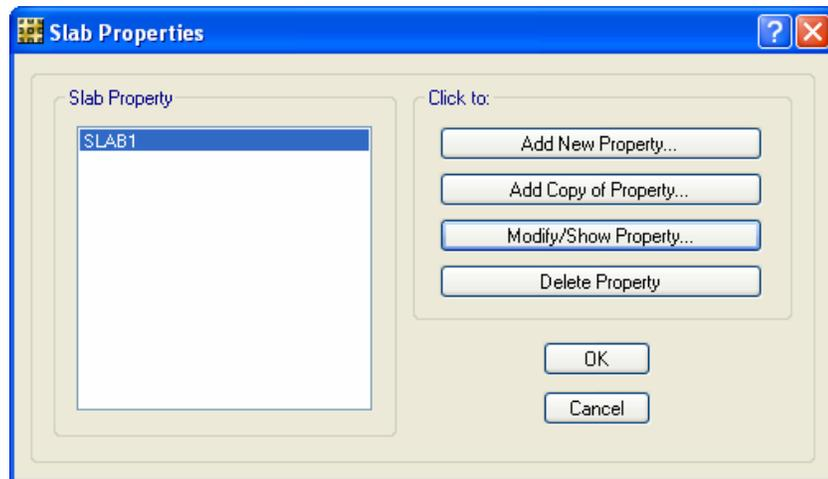

Figure 11 Slab Properties form
- A. Click the **Define menu > Slab Properties** command to access the Slab Properties form shown in Figure 11.